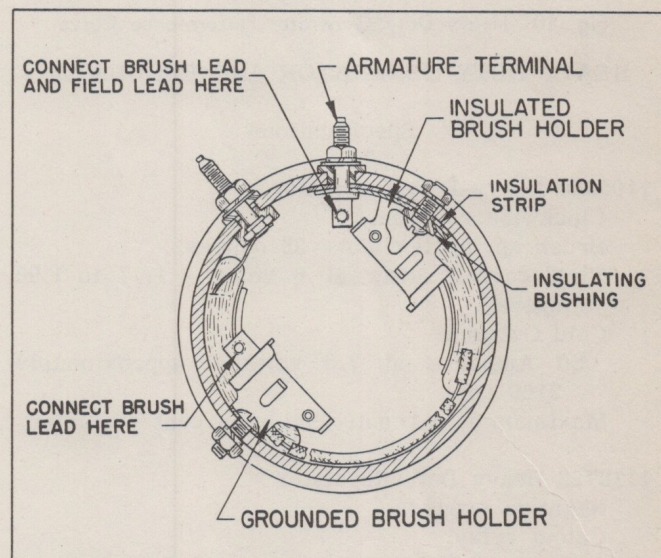

Fig. 9 Location of Ground Brush Holder
5. Attach new ground brush holder with screw, nut and lockwasher (Fig. 9).